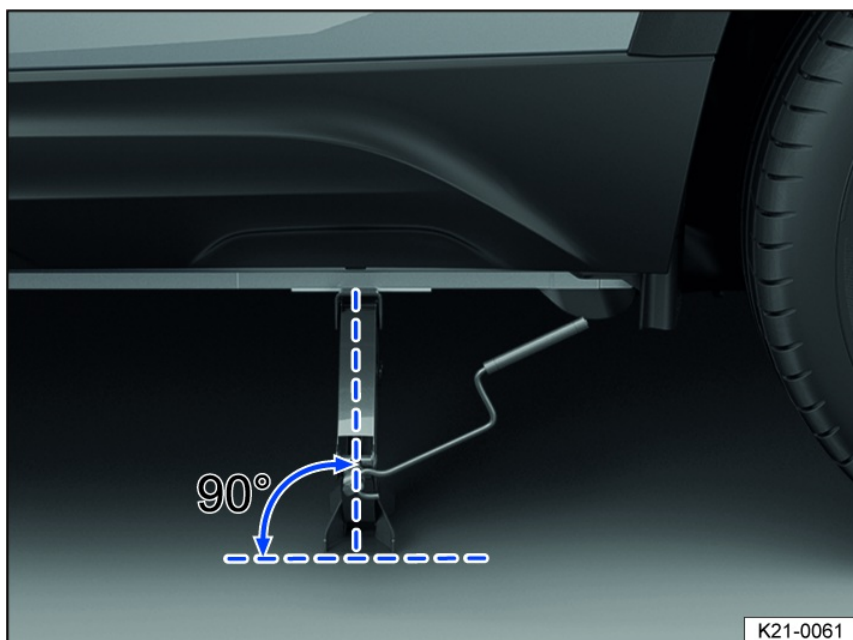
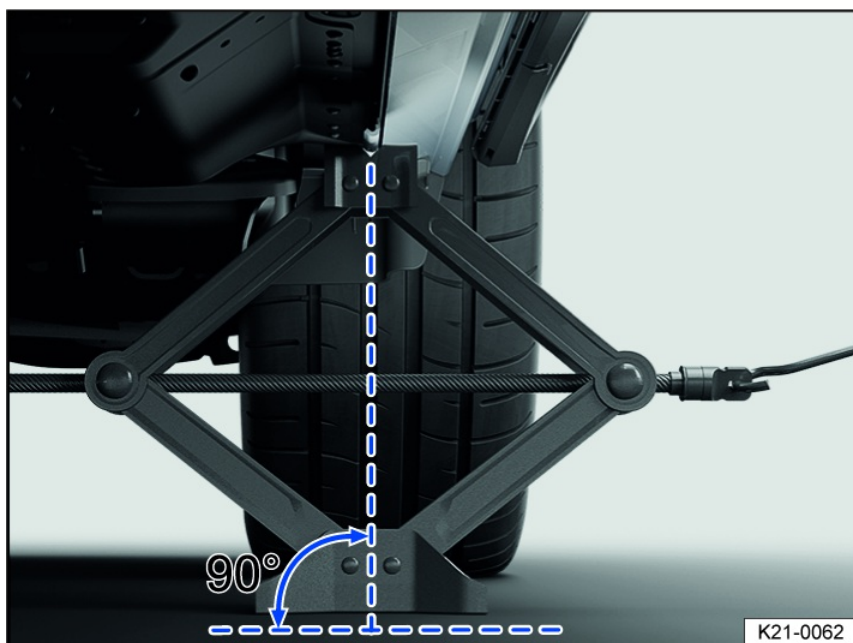

Fig. 174 Correct jack setup.
Fig. 175 Jack is positioned on the left side of the vehicle at the rear.
11. Make sure the entire base of the jack is seated securely on the ground and that the base of the jack is located exactly directly below the lift point *fig. 174* and *fig. 175*.
12. Straighten out the vehicle jack and continue raising the bracket on the top of the jack until the bracket is positioned on the brace under the vehicle *fig. 175*.
- Only place the vehicle jack at the lift points described. The bracket on the vehicle jack must firmly grip the sill fig. 175.